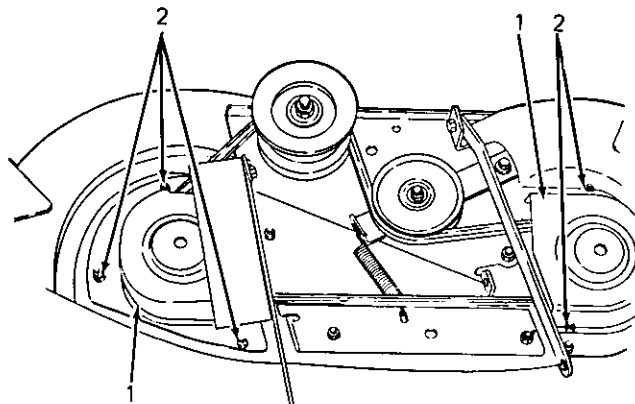

Figure 41.
Replace spindle drive belt as follows: (See Figures 41, 42 and 43.)
5. Install a new belt. Refer to Figures 41, 42 and 43 for proper placement of belt. Push against idler pulley to aid the installation.